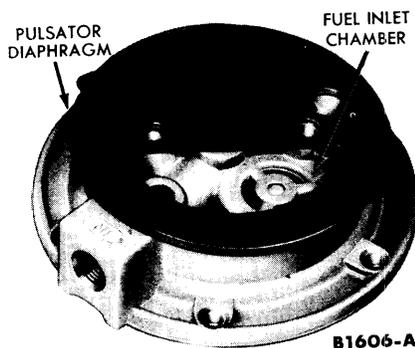

FIG. 5—Pulsator Diaphragm Installation
5. Place a new pulsator diaphragm on the valve housing in the position previously noted on disassembly (opening in the diaphragm over the fuel inlet chamber as shown in Fig. 5). Position the cover on the valve housing, aligning the scribed lines on the cover with the line on the valve housing. Be sure the pulsator diaphragm extends evenly around the edge of the cover. Install and tighten the two retaining screws and lock washers inside the valve housing.